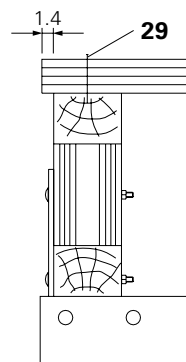

Fig. A2.06a
2. Fix one planking each at the platform ends flush to girders, see A1. Projecting length: 14 mm over girder on the wall side. (Fig. A2.06a) Mounting: TSS-Torx 6 x 80 (29), 2x per girder. Alternatively: wire nails 38 x 100.